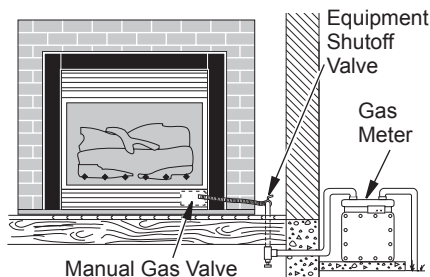
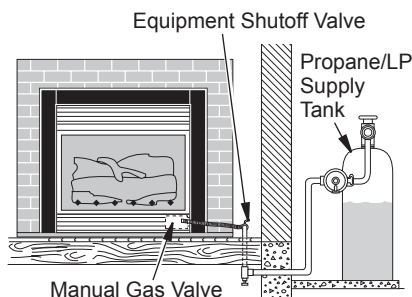

Figure 18 - Checking Gas Joints (Natural Gas)
Figure 19 - Checking Gas Joints (Propane/LP Gas)
3. Check all joints from gas meter to equipment shutoff valve for natural gas (see Figure 18) or propane/LP supply to equipment shutoff valve for propane/LP (see Figure 19). Apply a noncorrosive leak detection fluid to all joints. Bubbles forming show a leak.
4. Check all joints from gas meter to equipment shutoff valve for natural gas (see Figure 18) or propane/LP supply to equipment shutoff valve for propane/LP (see Figure 19). Apply a noncorrosive leak detection fluid to all joints. Bubbles forming show a leak.